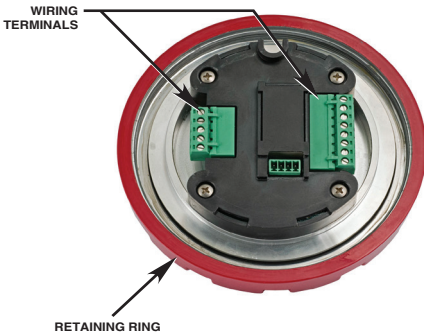

Figure 8—Location of Wiring Terminals
2. Unscrew the retaining ring to gain access to the wiring terminals (see Figure 8), and complete the installation of the system conduit. Feed the external wiring through the remaining junction box entry or M25 to 3/4 inch adapter. When installing the junction box, use care not to damage the wires and refrain from twisting them.